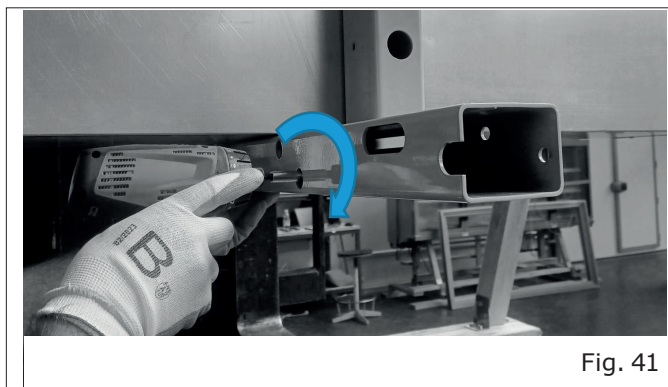
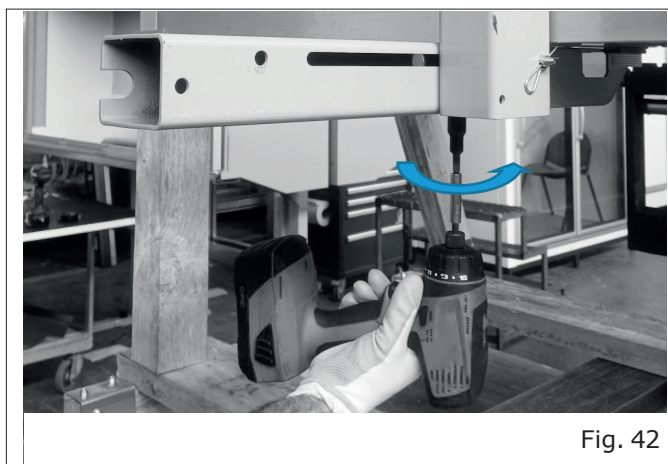
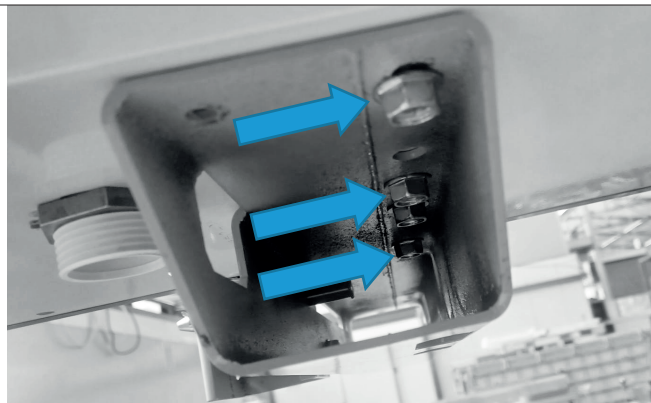

Fig. 41
Fig. 42
Fig. 43
- Fix the spar to the vertical upright, keeping it level with the bottom of the bench ("Fig. 41) and then fix it under the cabinet basin (Fig. 42" and "Fig. 43", "Pag. 30").